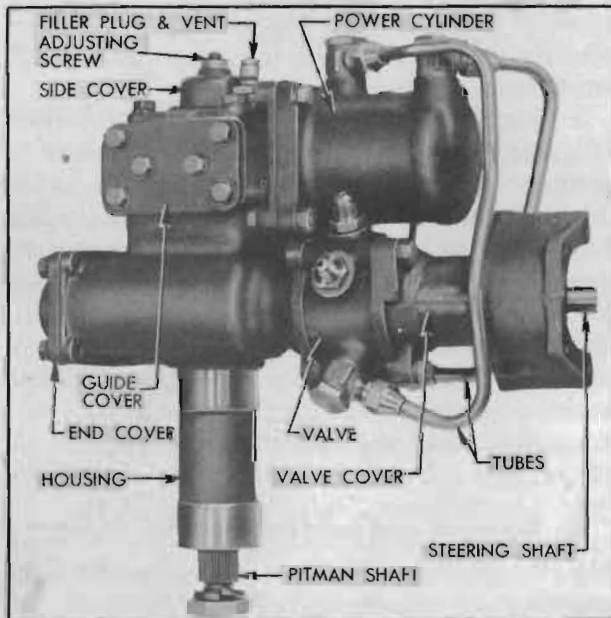

Figure 7-21—Left Side of Power Steering Gear Assembly
4. Remove two hoses, two large valve-to-cylinder tubes, and the small bleed line tube, then allow oil to drain from hydraulic valve and power cylinder. Remove filler plug with vent and drain lubricant from gear housing. See figure 7-21.
5. Turn steering shaft clockwise as far as possible, remove the four corner bolts only from the power rack guide cover, then remove the cover and guide assembly and all cover shims. See figure 7-21.
24. Install the small bleed line tube and the two large valve-to-cylinder tubes. The longer tube goes on left side of gear assembly. See figure 7-21. Tighten the elbow bolts at hydraulic valve but leave elbow bolts loose at power cylinder.